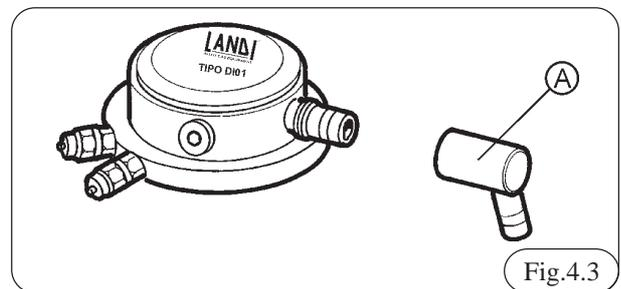

Fig.4.3
- A 120-degree (A) fitting (Fig 4.3) is supplied with the kit. This fitting can be installed either in the fuel inlet of the distributor or in the fuel outlet of the proportioner to facilitate the connection in special circumstances. Information on the circumstances for